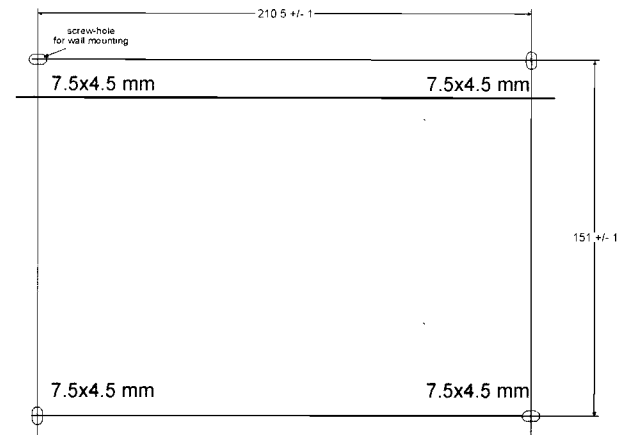

Fig. 9. Drilling template
2. Drill screw-holes in the wall according to the template presented in Fig. 9.